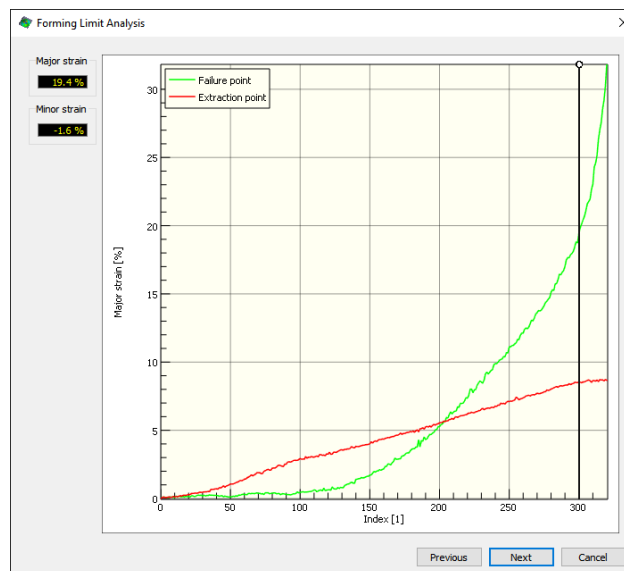

Figure 3.
6. After the user clicks **Next**, the e1 vs time graphs are shown for the two points. The software automatically attempts to determine the correct point in the time sequence for strain extraction based on a change in slope of the extraction point as shown in figure 3. However, the user can change this point by dragging the white dot on top of the vertical bar left and right.